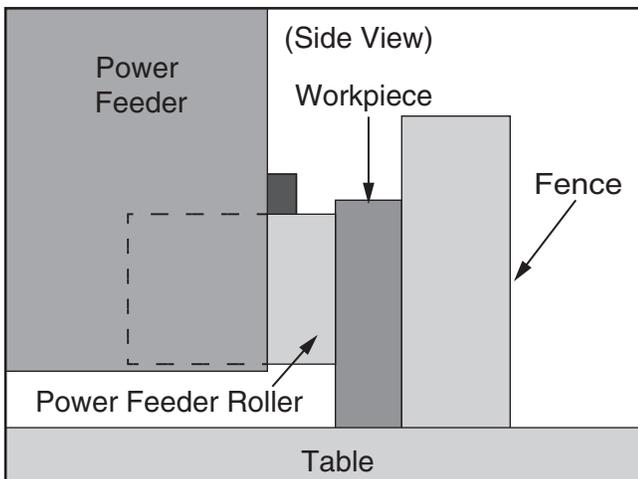

Figure 27. Example of power feeder set up for 90° feeding operation on shaper against a fence.
5. Lower power feeder and adjust it as needed so rollers are parallel to workpiece and workpiece is firmly against fence, as shown in **Figures 27–28**.